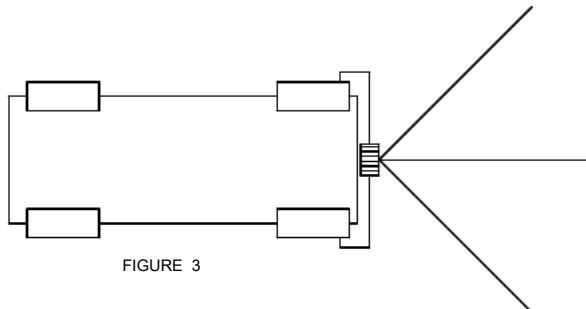

FIGURE 3
- 45 degree left or right from straight ahead (See Figure 3).